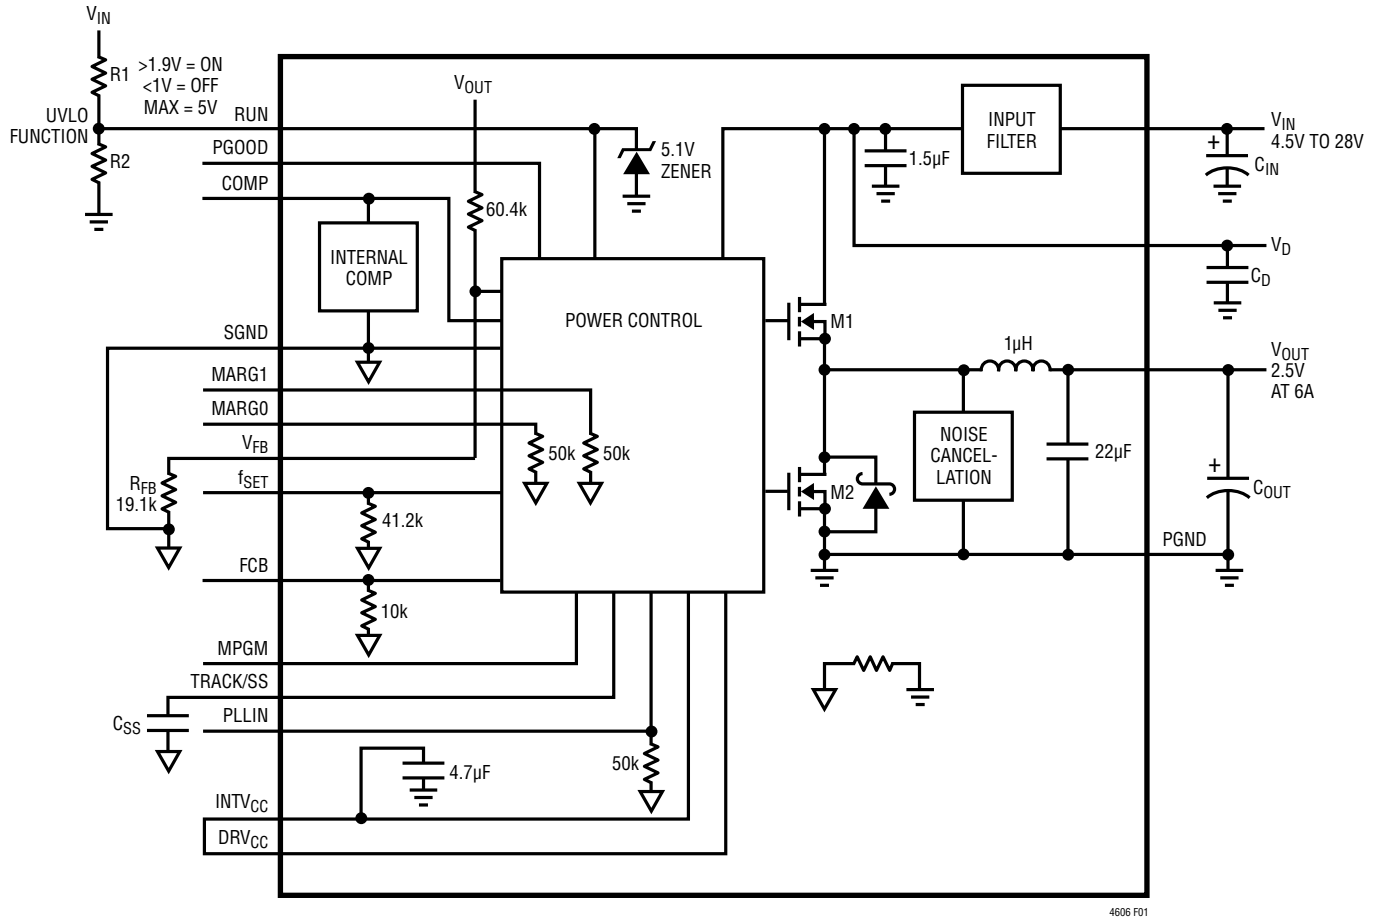

Figure 1. Simplified Block Diagram
**RUN (Pins A10, B9):** Run Control Pins. A voltage above 1.9V will turn on the module, and below 1V will turn off the module. A programmable UVLO function can be accomplished with a resistor divider from VIN to ground. See Figure 1. This pin has a 5.1V Zener to ground. Maximum pin voltage is 5V. Limit current into the RUN pin to less than 1mA.
TA = 25°C. Use Figure 1 configuration.
See Figure 1, Simplified Block Diagram.